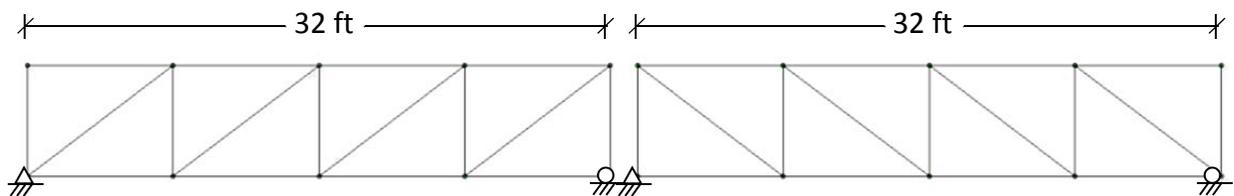

Figure 4a. Two simple-span trusses
- **Indeterminate trusses can be more structurally efficient** (where structural efficiency = load at failure / weight of structure). Two similar trusses are shown below. In Figure 4a, two simple-span trusses are shown; and in Figure 4b, a two-span continuous truss is shown.